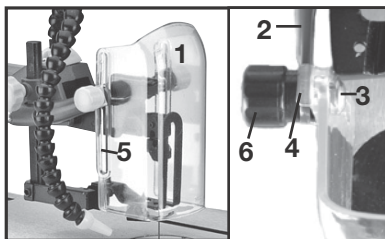

FIG 4
Installing the Clear Shield (FIG 4)
1. Place clear shield (1) between the two arms (2) in the position as show in FIG 4.
2. Align the slide groove on the clear shield with the hole on the arm on both sides (2).
3. Place the washer (4) between the clear shield and the arm on the one side, insert the bolt (3) through the slide groove (5) on shield, the washer (4) and the hole on the arm (2).
4. Screw the knob (6) on, and tighten it.